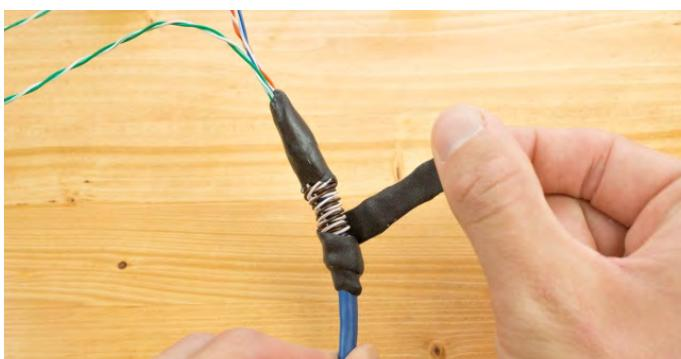

Figure 42
- Wrap the last piece of poly butyl rubber tape around the area of cable with the brown wire pair. (Figure 42)